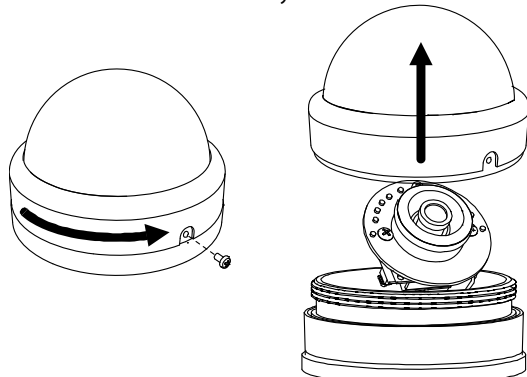

Figure 1
- 1 Use the hex key supplied with the camera to remove the locking screw. See Figure 1.
- 2 Use the hex key supplied with the camera to remove the locking screw. Turn the bezel counter-clockwise to unscrew it from the base. See Figure 1.